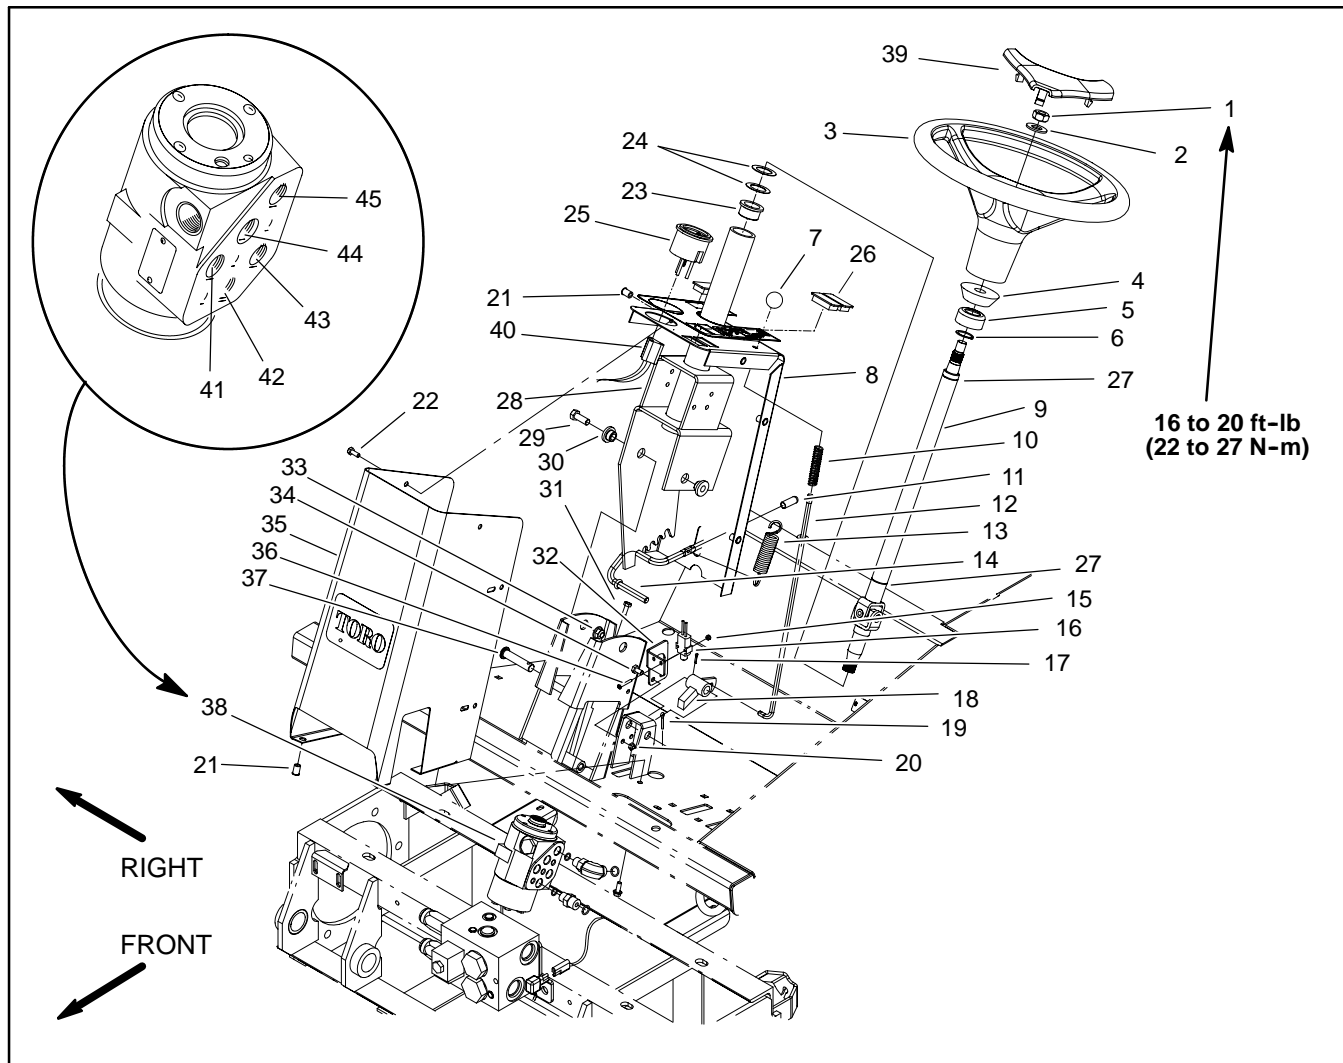

Figure 82
## Removal (Fig. 82)
5. Remove steering control valve from machine using Figure 82 as a guide.
## Installation (Fig. 82)
2. Install steering control valve using Figure 82 as a guide.